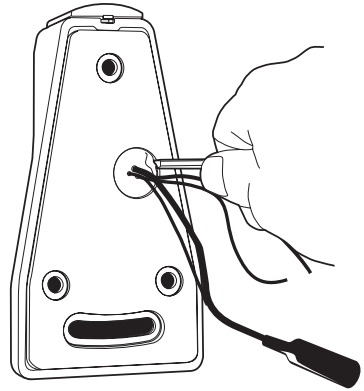

Figure 5. Wiring Plug Removal
- Using a blunt tool push out the wiring plug in the bottom of the base (refer to Figure 5). Pull the wiring inside the base.